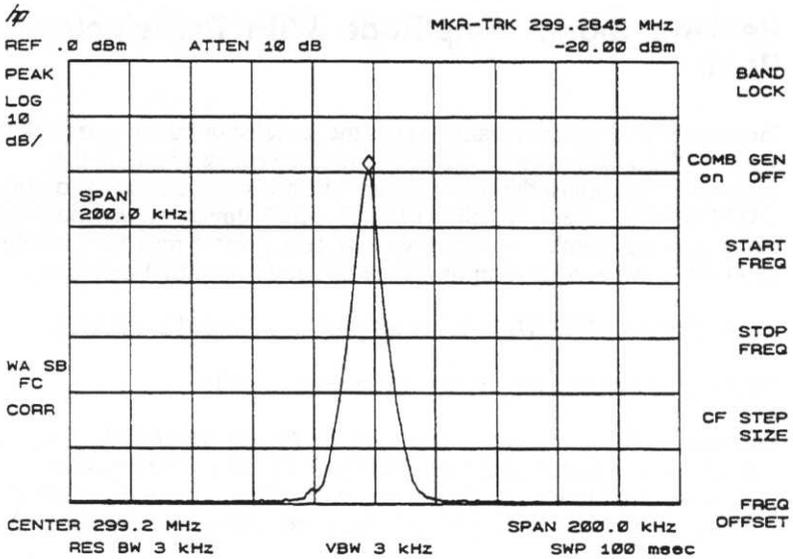

Figure 2-4
3. Press **SPAN, 200 kHz**. The span decreases in steps as automatic zoom is completed. You can also use the knob or step keys to decrease the span. See Figure 2-4.